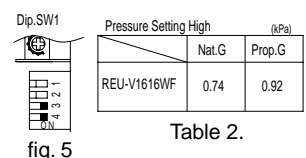

fig. 5
12. To set the appliance to 'Forced High' combustion, switch both No. 3 and No. 4 dip switches of the SW1 set of dip switches to 'ON'. (fig. 5) Ensure maximum water flow.